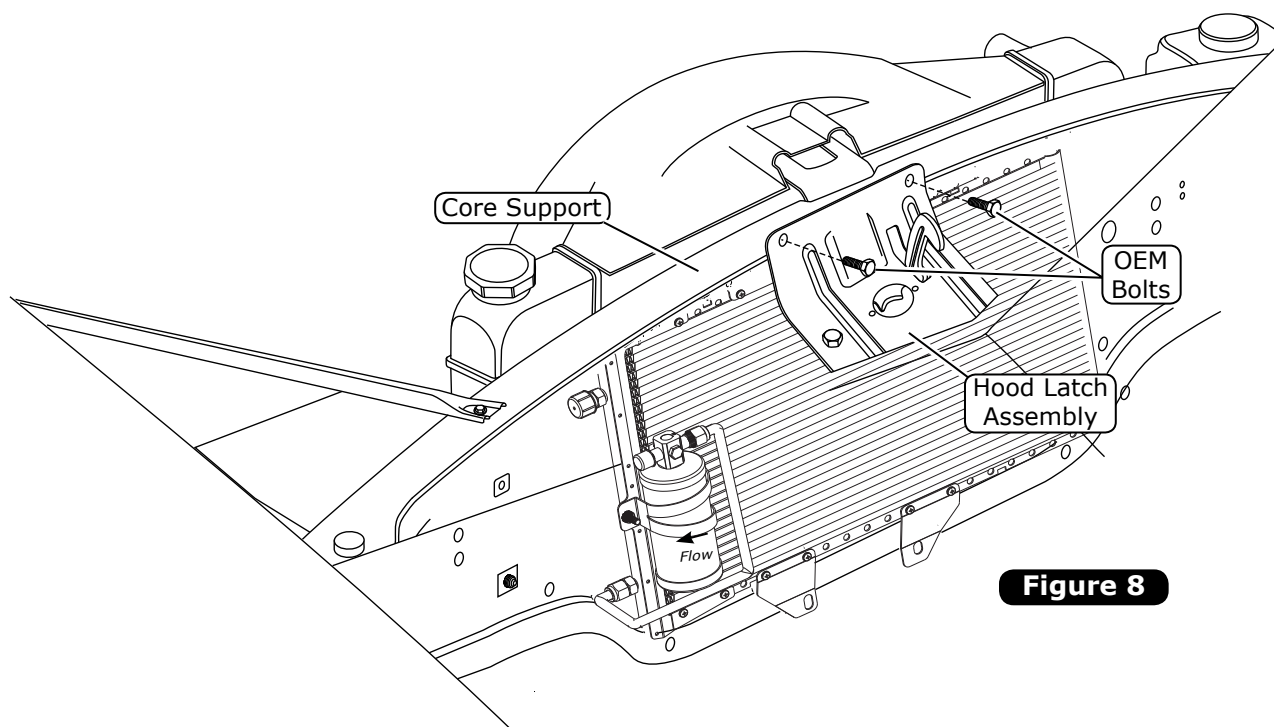

Figure 8
1. Reinstall the hood latch assembly using the OEM bolts. Install the OEM bolts through the hood latch assembly, through the core support, and into the U-nuts on the top condenser bracket (See Figure 8, below).